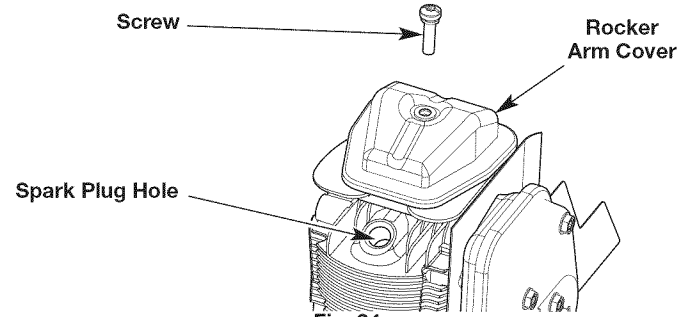
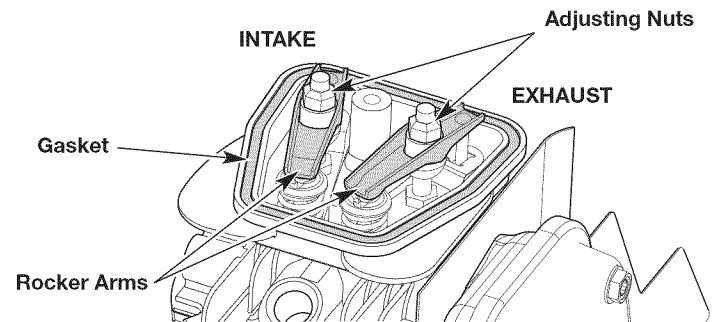

Fig. 24
Fig. 25
6. Remove the screw from the rocker arm cover with a flat-head screwdriver or T-25 Torx screwdriver (Fig. 24). Remove the rocker arm cover and gasket (Fig. 25).
7. Look into the spark plug hole (Fig. 24) and pull the starter rope slowly to move the piston. Make sure: